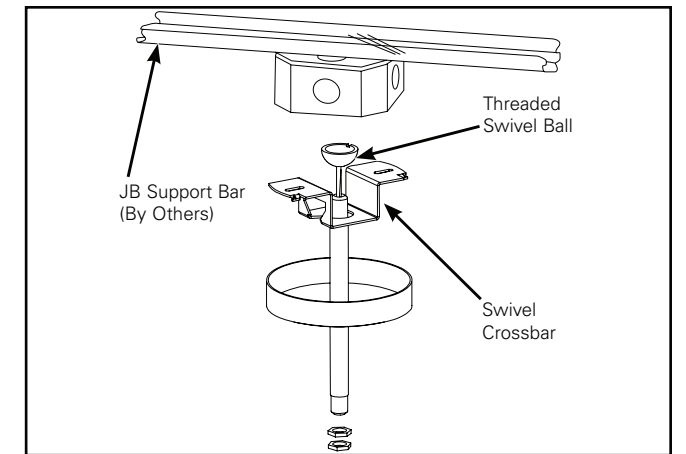

Figure 1. Power (2-D)
4. Attach pendant to swivel ball and secure using 1/4" IPS lock nut. (Figure 1.)